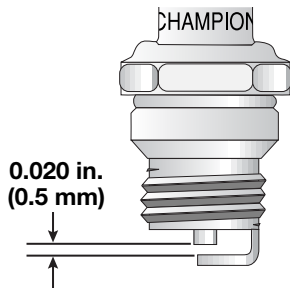

Fig. 43
3. Replace a cracked, fouled or dirty spark plug. Set the air gap at **0.020 in. (0.5 mm)** using a feeler gauge (Fig. 43).